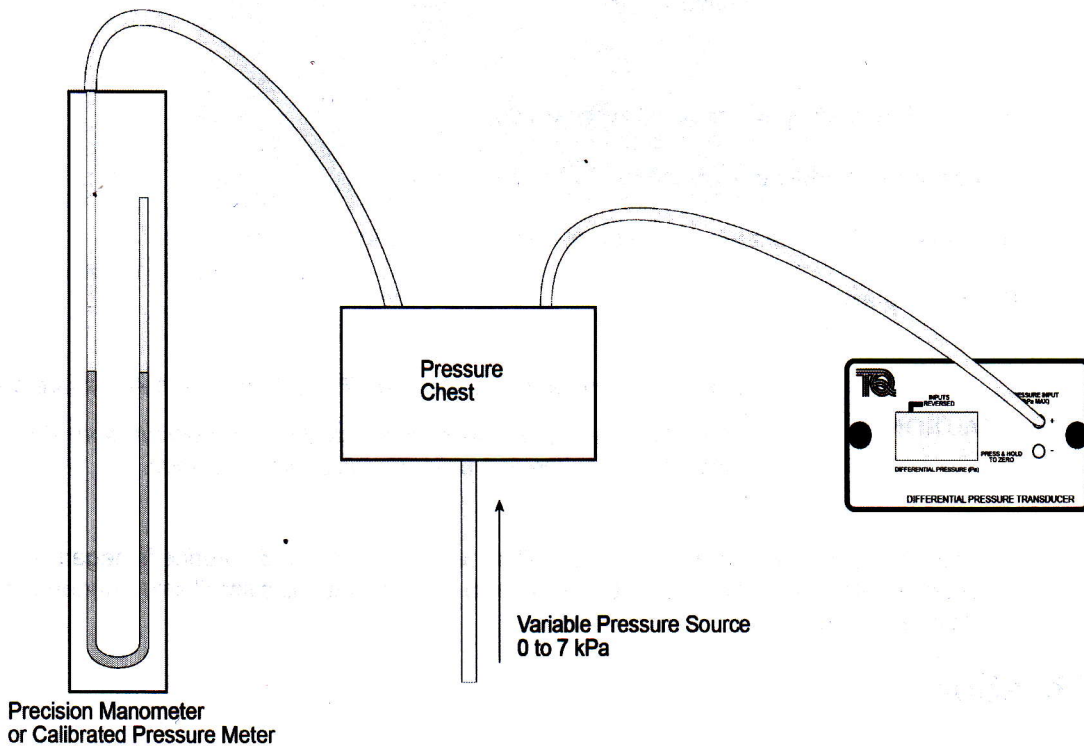

Figure 9 Connections for calibration
1. Connect the AFA5 to the pressure chest and manometer as shown in Figure 9. Note that the '+' connection is used. The '-' connection is left open to atmospheric pressure. Do not apply any pressure yet.